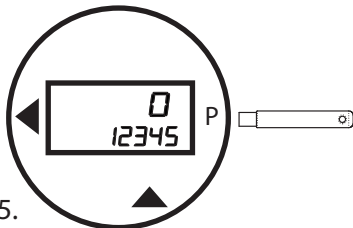

Figure 25.
- c. Pass the wand over **P**. This will end configuration mode and save your changes (Figure 25).